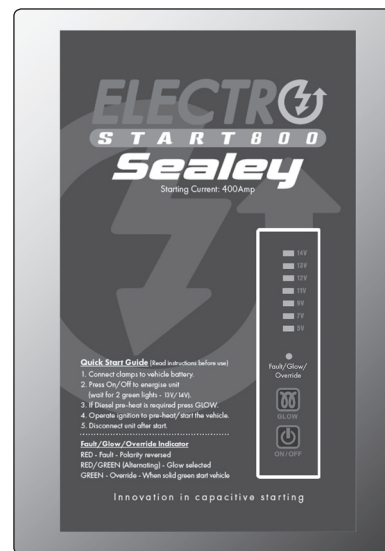

fig.1
Energising Indicator (EI) (fig.1):